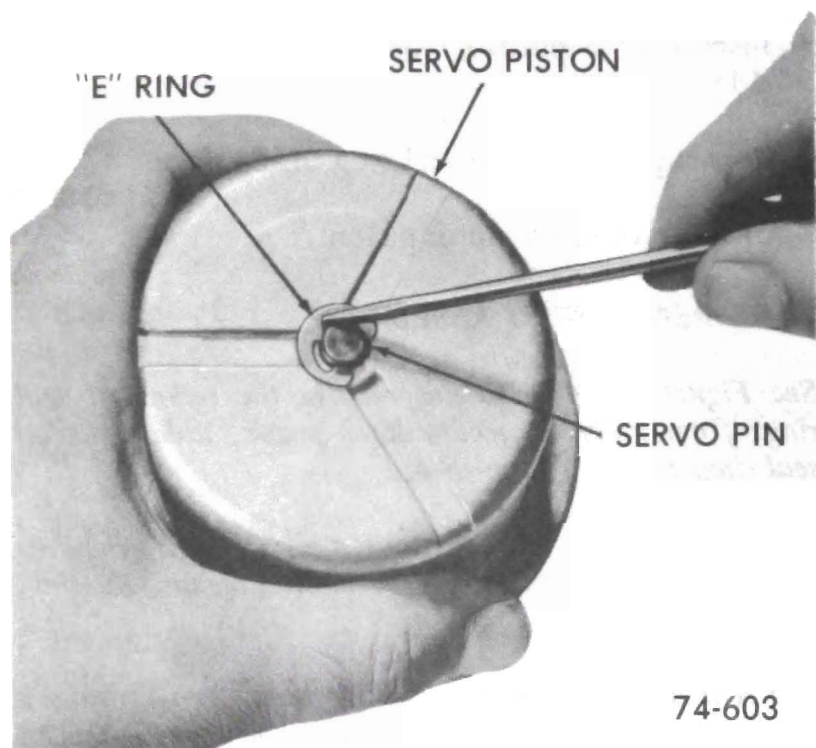

Figure 76-146
2. Remove "E" ring retaining rear servo piston to band apply pin. See Figure 76-146.